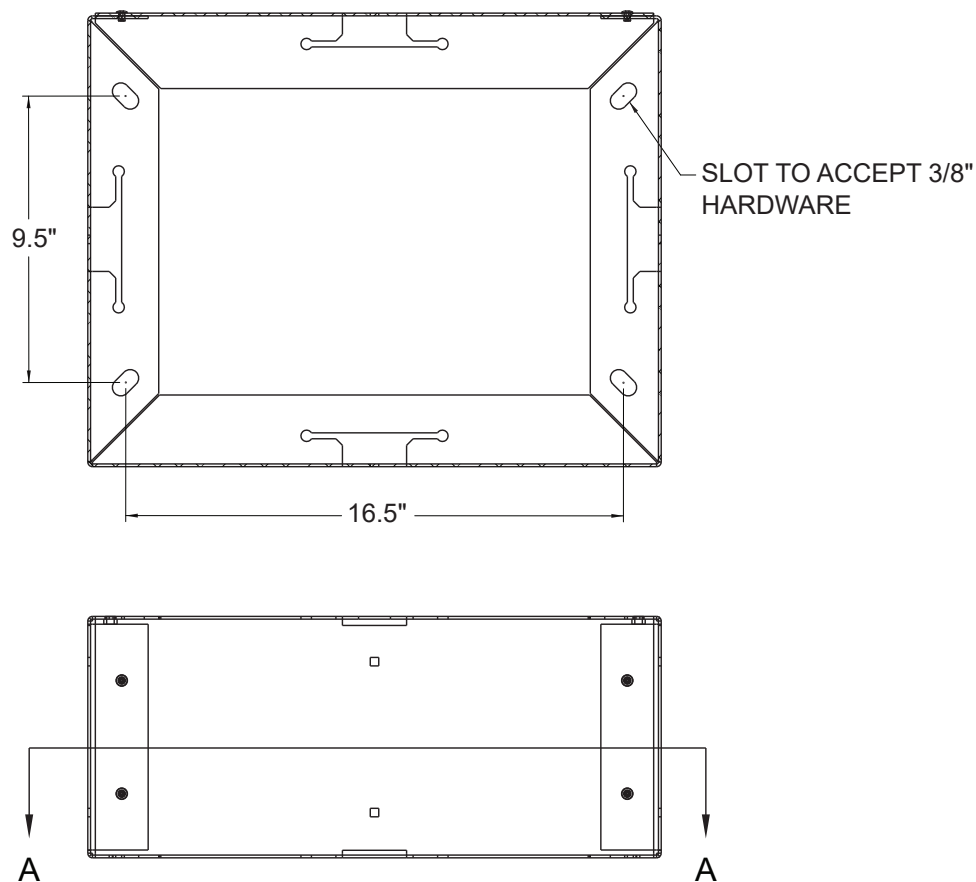

Figure 6 — Plinth Template for Mounting Bolts
- Remove the battery tray to access the bottom of the enclosure. There are two retaining screws per side as shown in Figure 6.